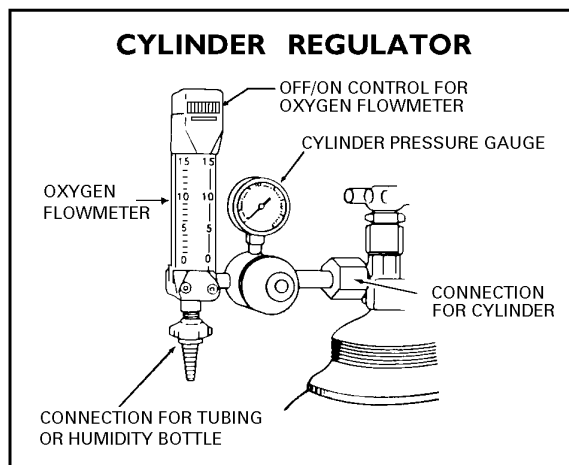

Figure 3-10
b. Cylinder regulator with flowmeter. (See Figure 3-10.)